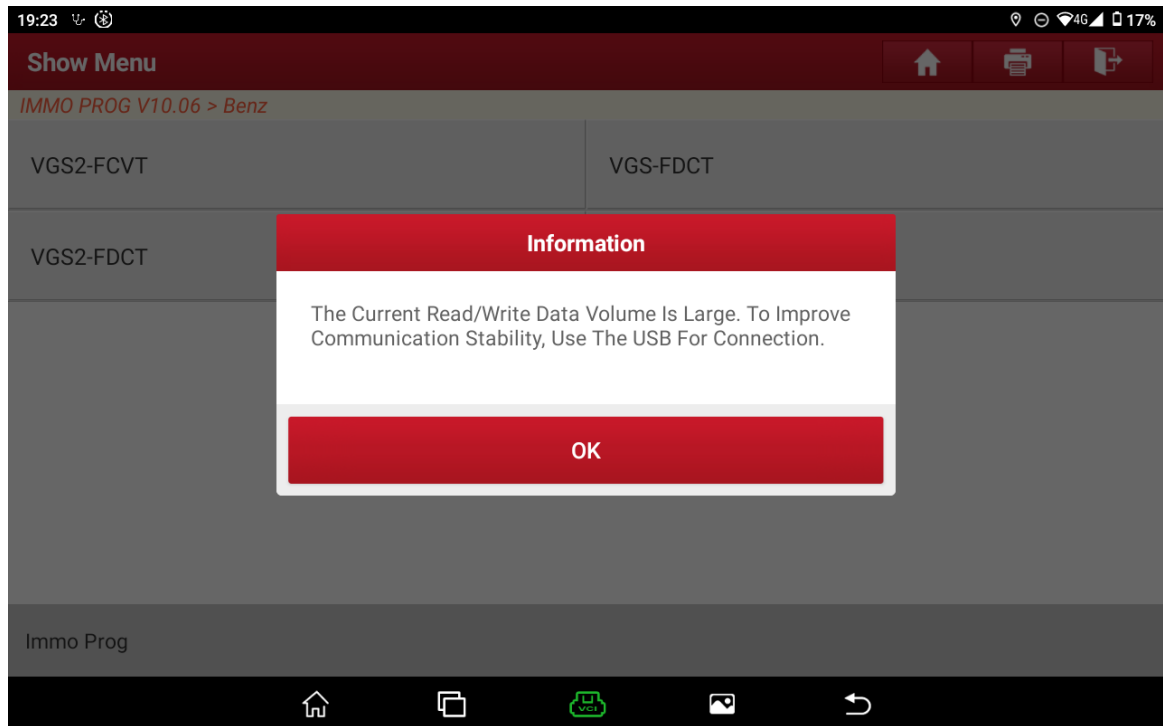

Figure 3
2. Due to the large amount of data when reading and writing, in order to improve communication stability, use USB to connect, as shown in Figure 3.